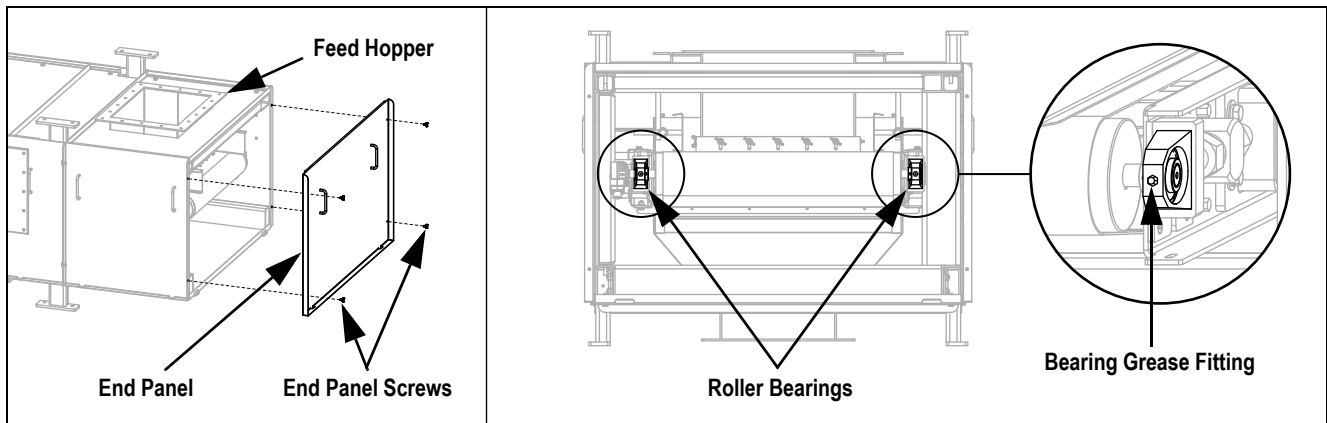

Figure 5. Bearing Lubrication Locations
- Grease fitting on bearing for adding grease (Figure 5 on page 4); white lithium grease recommended